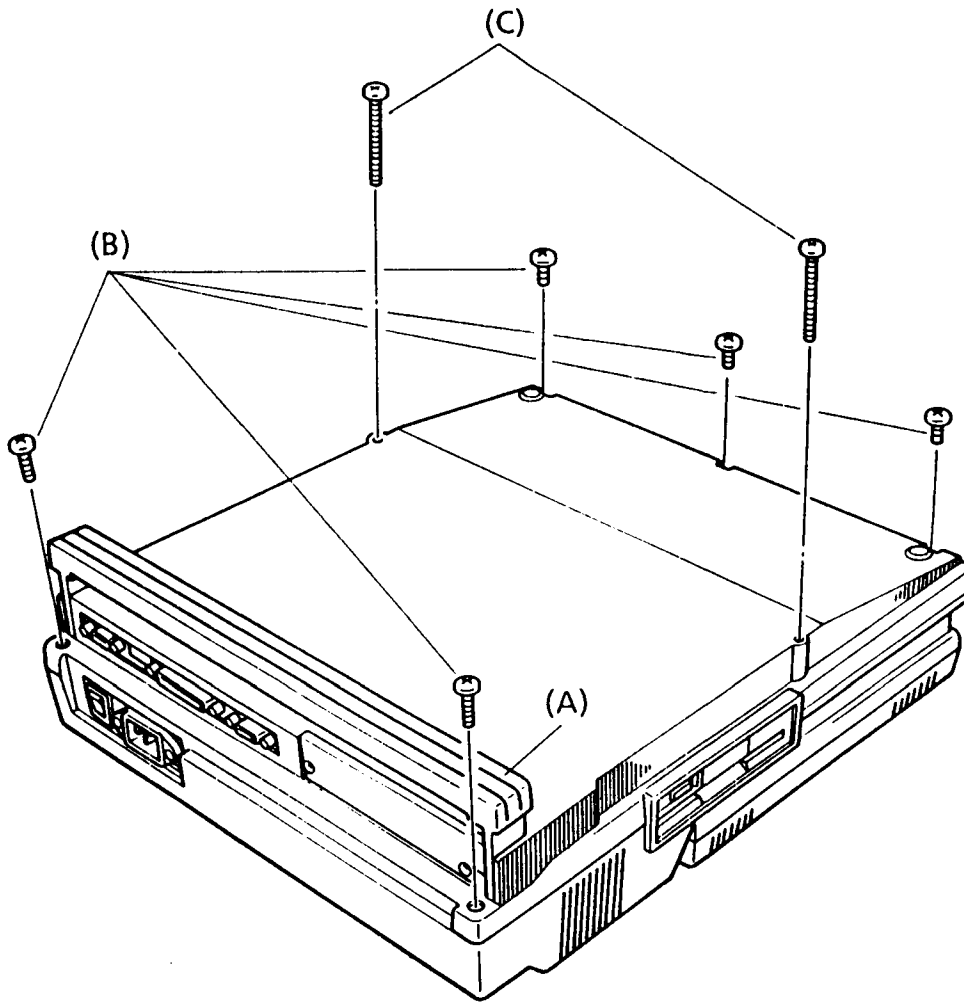

FIGURE 4-1 Removing the Screws from the Base
7. Remove the ground wire (D) by removing the single screw (E) if present.
8. Take off the latches (F) and (G) of the top cover from the base and pass the cables (H) through the slit (I) of the top cover.
NOTE: To avoid the latches be damaged, care should be taken when you take off the latches. There is no latches (F) when the screws (C) shown in figure 4-1 present.